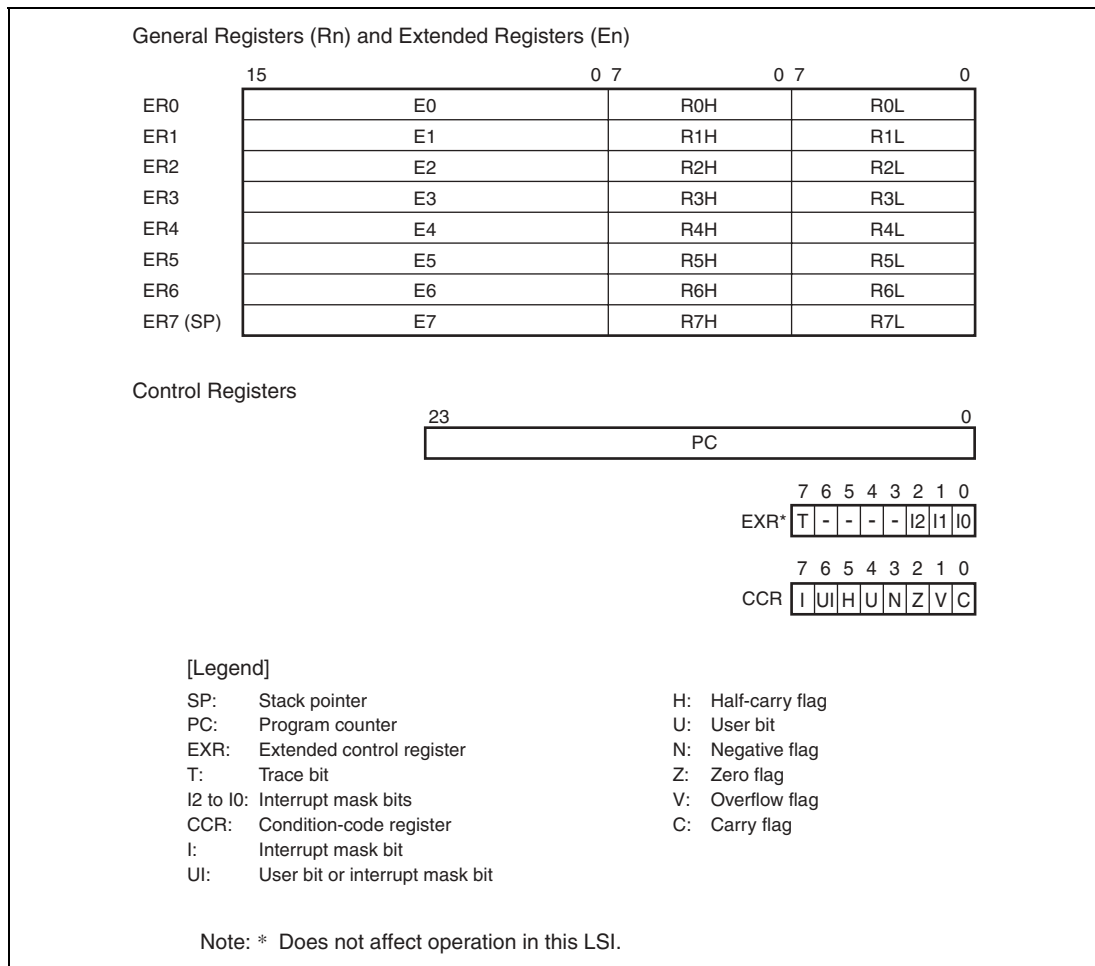

Figure 2.6 CPU Internal Registers
The H8S/2000 CPU has the internal registers shown in figure 2.6. There are two types of registers: general registers and control registers. Control registers are a 24-bit program counter (PC), an 8-bit extended control register (EXR), and an 8-bit condition code register (CCR).